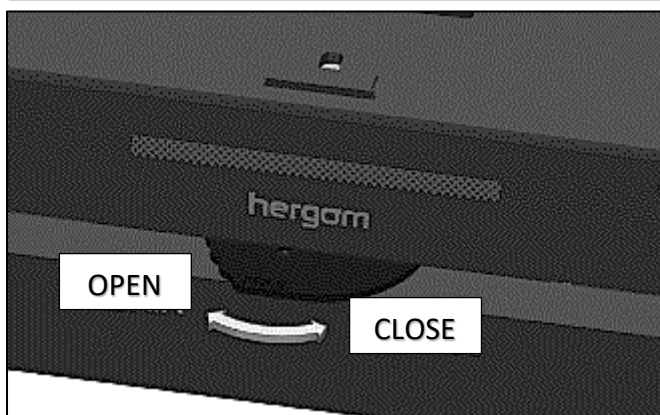

FIG. 7
- Move the regulation valve from right to left to provide a greater inflow of air to favour combustion (FIG. 7).